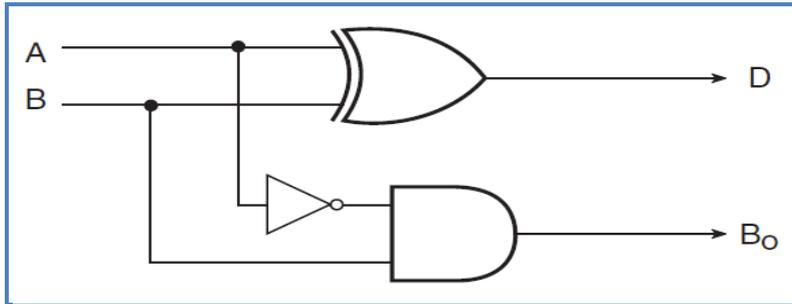

Fig. 3.8: “Logic gate implementation” of “half subtractor”
A “half subtractor” is a type of “arithmetic circuit” that “subtracts” “two-binary bits”. It produces results “Difference”(D) and “Borrow”out (B0) at the output. Here ‘Borrow’ means that ‘1’ is borrowed to perform subtraction operation. If the difference is ‘-1’, then ‘Borrow (B0)’ will be ‘1’. The truth table and block diagram are given in fig. 3.8.